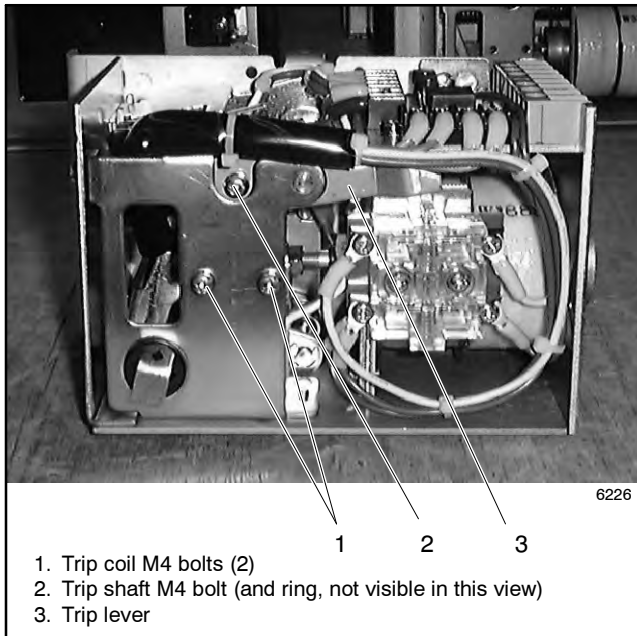

Figure 7-23 Trip Coil and Trip Shaft Bolts
3. Remove two M4 bolts that secure the trip coil. See Figure 7-23.